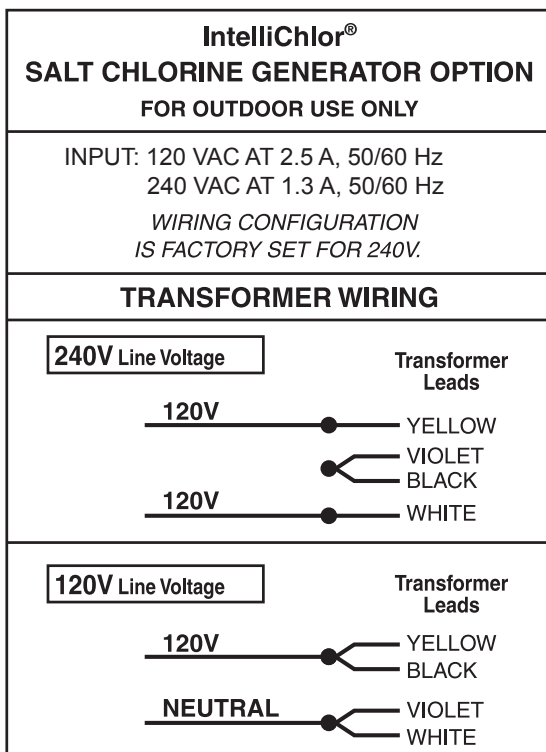

Figure 3: SCG Transformer AC Wiring Diagram
7. Connect the transformer primary AC wires as required. See "Figure 3: SCG Transformer AC Wiring Diagram" on page 9 for transformer AC wiring information.